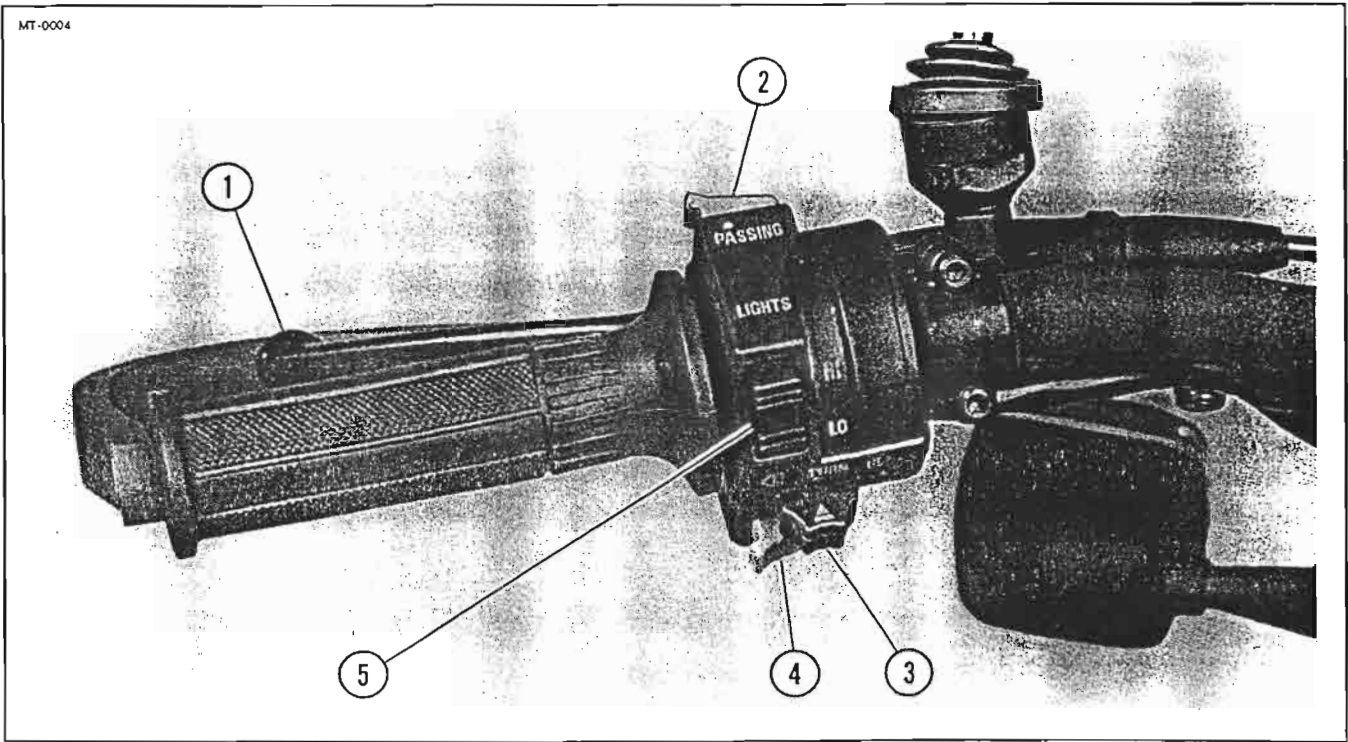

Figure 2-2. Left Handlebar Controls
5. *Left Handlebar Controls* – See Figure 2-2.
## Legend for Figure 2-2.